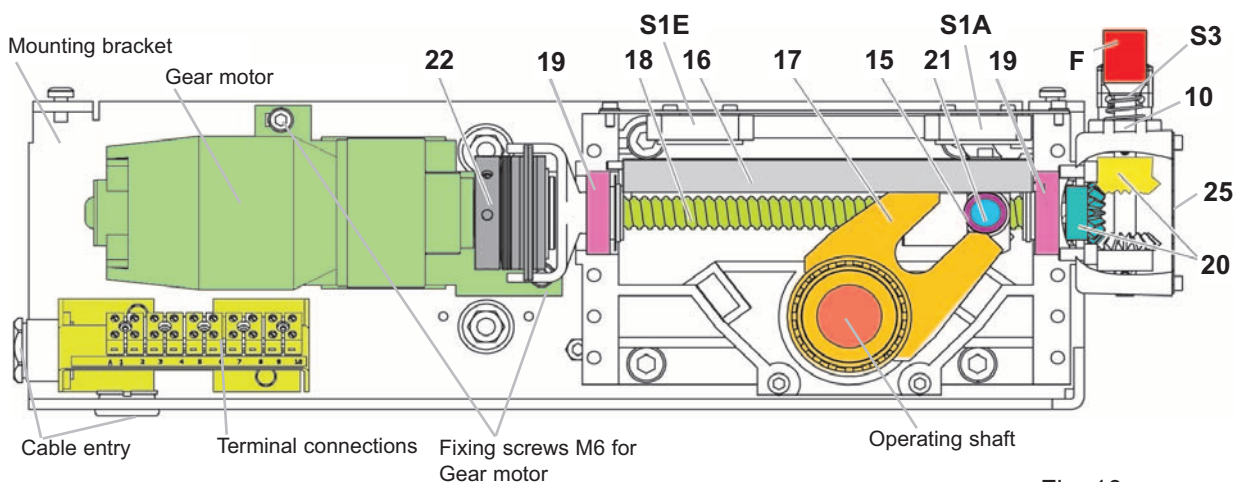

Fig. 10
After 10000 switching cycles or 10 years	<p>Lubricate the following components of the motor drive with the lubricant Isoflex NBU² (see chapter 7.1) so that the interacting components are sufficiently lubricated:</p> <ul style="list-style-type: none"> • Guide rollers (15) on both sides, driver pin (21) inclusive guide rails (16) on both sides and connecting fork (17) • Ball and screw spindle drive (18) and both rolling-contact bearing (19) • Bevel gearing (20) and shifting sleeve (10) at the emergency manual drive (it is necessary to remove the covering (25)) • All moveable parts • Function check of the auxiliary switches (S2A and S2E, see Fig.: 1), protective motor switch (P), Emergency hand pilot switch (S3, see Fig.: 10), Heating with Thermostat (K) • Carry out a functional check (see chapter 4.2.5). <p>Attention: For the friction clutch (22) to work properly, it must not come into contact with lubricant.</p>